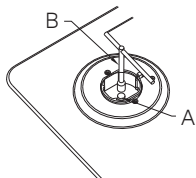

Fig. 9
2. Remove burner components "B" and pan supports (Fig. 9).
3. Remove the injectors "A" (Fig. 9) with a socket spanner and replace with the corresponding injectors. Setting up minimum flow rates: